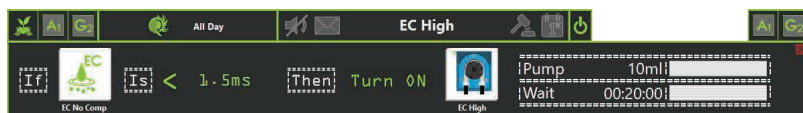

Figure 3 - Low EC Alarm Example
▶ Figure 3 shows a scheduled alarm that if the EC value is higher than 1.5 millisiemens (mS), will activate a peristaltic pump for 10 seconds, and then it will stop for 20 minutes so that the solution can be mixed and the values measured again. The process is repeated until the value is lower.